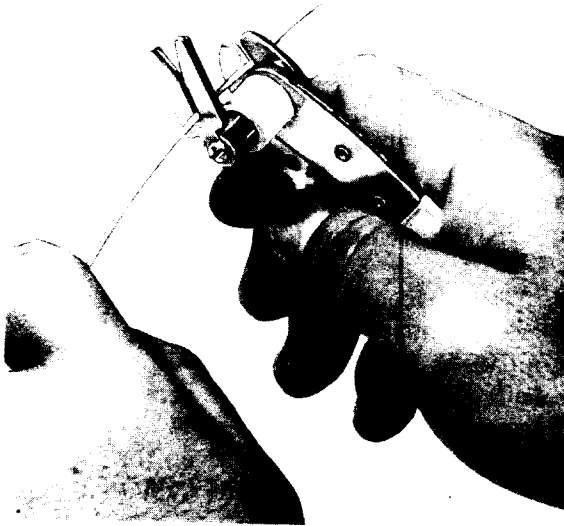
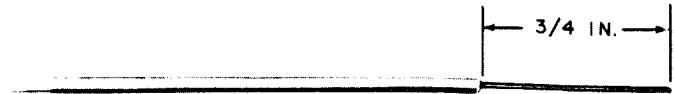

Fig. 3—Removal of Insulation with B Wire Stripper
Fig. 4—Insulation Removed
- (1) With the cutting jaws in the open position, fully insert the conductor into the cutting blade slot and between the cutting jaws (Fig. 3).
- (2) Close the handles to cut the conductor.
- (3) Pull the tool toward the cut end to remove the 3/4-inch length of insulation (Fig. 4).